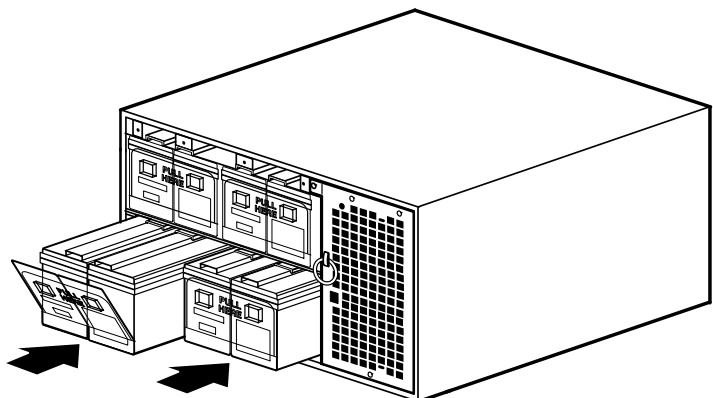

Figure 53. Installing the UPS Battery Trays
3. Slide the battery trays into the cabinet (see Figure 53). Verify that each tray is properly aligned before sliding the tray in.